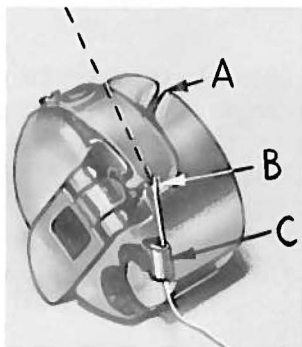

Fig. 7
Place the bobbin in the bobbin case. In one continuous motion, with the thumb and forefinger of the right hand, draw the bobbin thread through the diagonal slot in bobbin case (A, Fig. 7) under the tension spring (B) and into self threading eyelet (C) on case. Note the direction of the rotation of the bobbin as the end of the thread is pulled when looking at the bobbin case from the back. The bobbin should rotate counterclockwise.